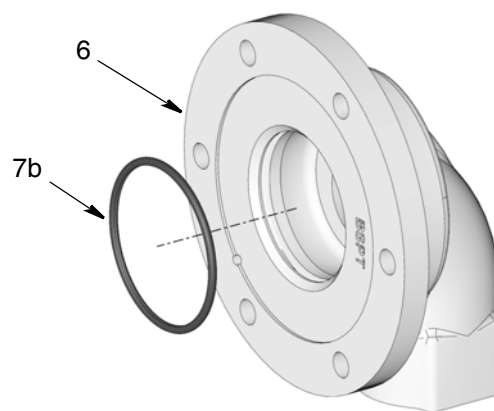

FIG. 4
- c. Install the new black o-ring (7b) first. Use your fingers to press it into the groove located inside the neck of the inlet assembly (6) (FIG. 4).